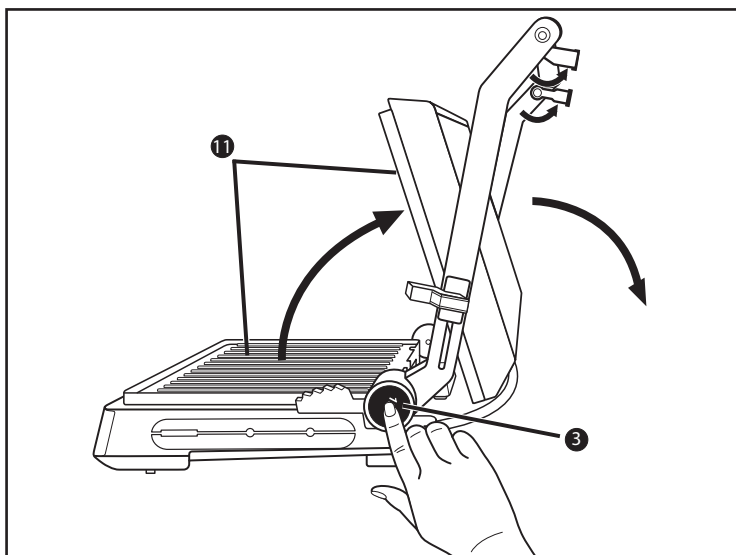

Fig. 1
- 1) Fold out both feet ❶ (fig. 1).
- 2) Press the unlocking button 180° ❸ (fig. 1) and open the appliance lid until both hotplates ❶ can be used as a table grill.